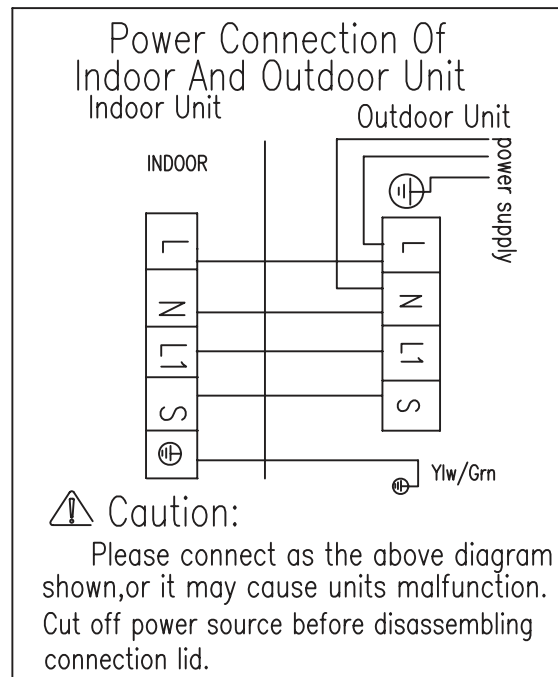

Fig.14
- Connect the power connecting wires and signal control wire separately to the corresponding terminals. (In Fig.14,
- Connect the connecting wires of the unit separately to the corresponding terminals. (Fig.14)